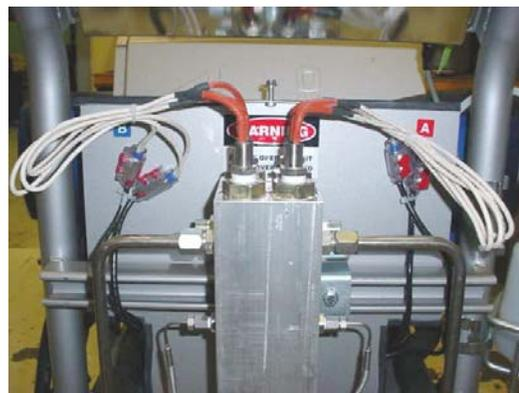

FIG. 22
9. Tie-wrap heater wires in place on the back of unit when finished with connections. Add red caps to connectors. See FIG. 22.